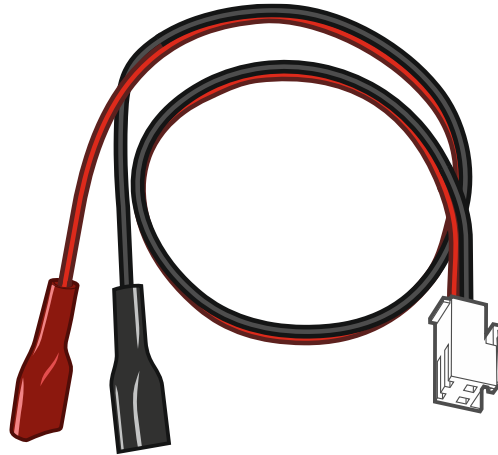

Fig. 2. Battery connection wires (red +, black -).
- ② RESET pins for emergency starting the control panel (see: “Emergency procedure of the control panel start-up” p. 12).
- ③ RS-232 (TTL) port.
- ④ connector for battery connection wires. The wires are included in the set (Fig. 2).
- ⑤ cable terminated with an antenna connector. If the control panel is installed in a plastic enclosure, you can use an antenna that can be installed inside the enclosure. If the control panel is installed in a metal enclosure, use an antenna that can be installed on the enclosure or at a certain distance from the enclosure.
- ⑥ SIM1 LED. The LED is on, when the card installed in the SIM 1 slot is active.
- ⑦ SIM2 LED. The LED is on, when the card installed in the SIM 2 slot is active.